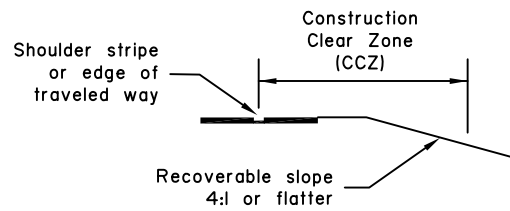

FIGURE 1
- Measure CCZ from the shoulder stripe. If there is no shoulder stripe, measure from the edge of the traveled way. See Figure 1.